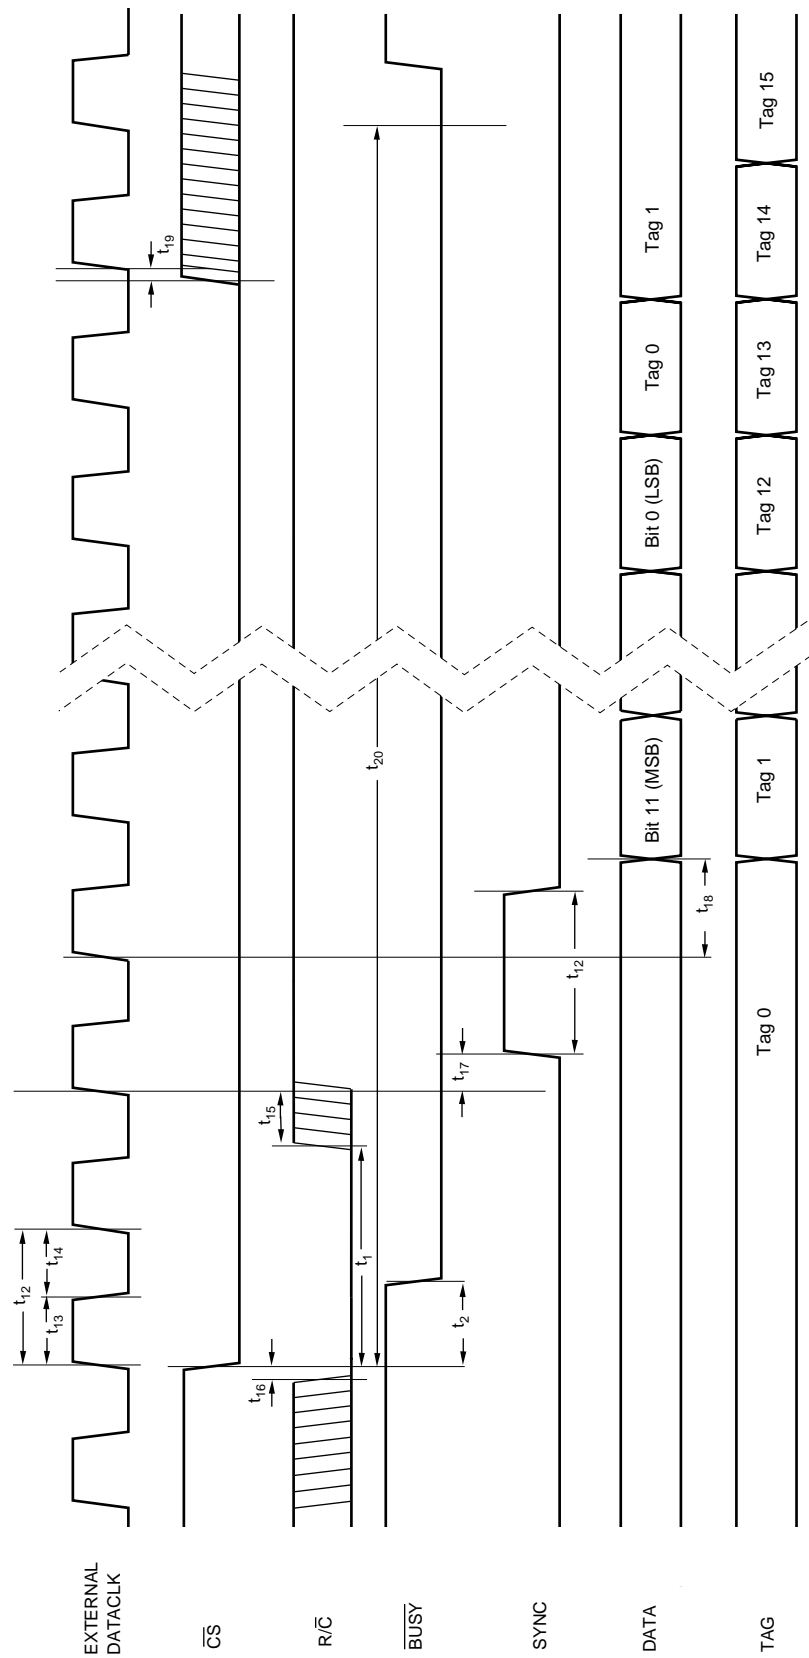

FIGURE 3b. Conversion and Read Timing with External Clock. (EXT/ $\overline{INT}$  Tied HIGH.) Read During Conversion (Previous Conversion Results).
NOTE: (1) See Figure 3b for constraints on previous data valid during conversion.